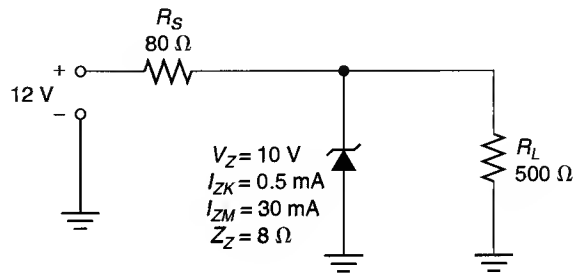

FIGURE 3.63
47. Determine the values of I_T , I_L , and I_Z for the circuit shown in Figure 3.63.
48. The 12 V input to Figure 3.63 has 770 mV_{pp} of ripple. What is the output ripple for the circuit?